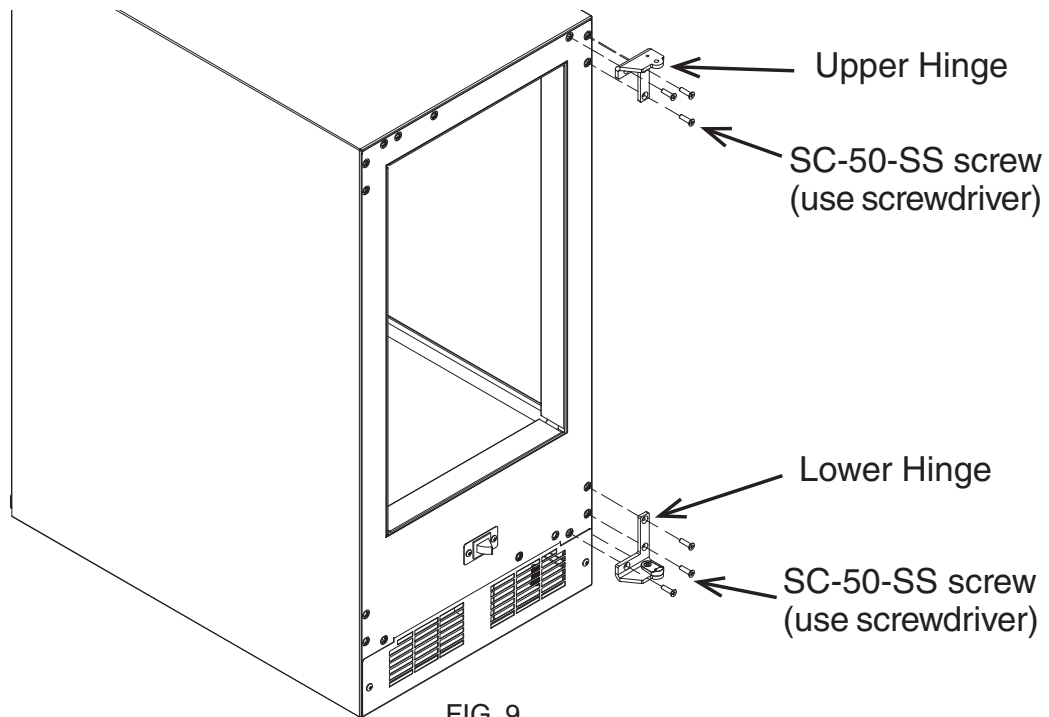

FIG. 9
**Step 7.** Remove the SC-50-SS screws and the hinges from the cabinet. See the illustration below. See figure 9.